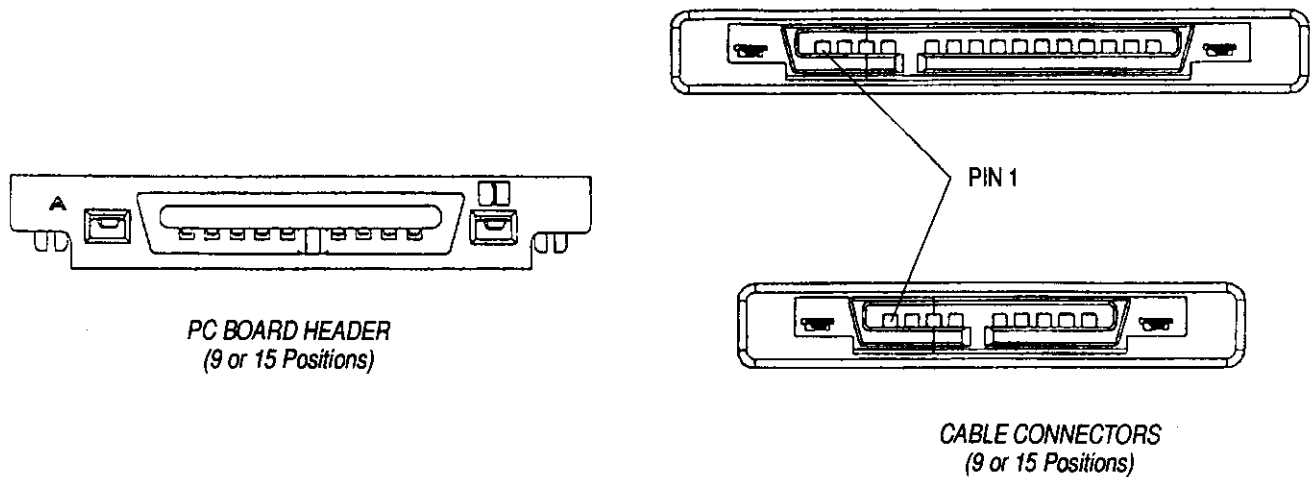

Figure 4
3.3. Polarizing Features (Figure 4)